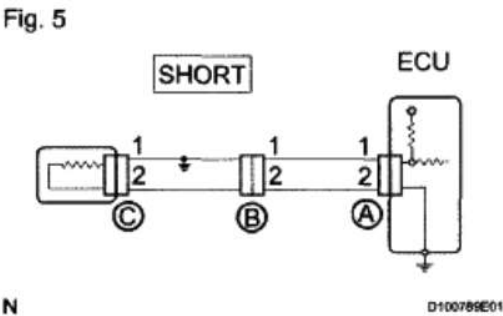

Fig. 41: Checking For Short Circuit
- a. If the wire harness is ground shorted (**Fig. 41**), locate the section by conducting a resistance check with the body ground (below).